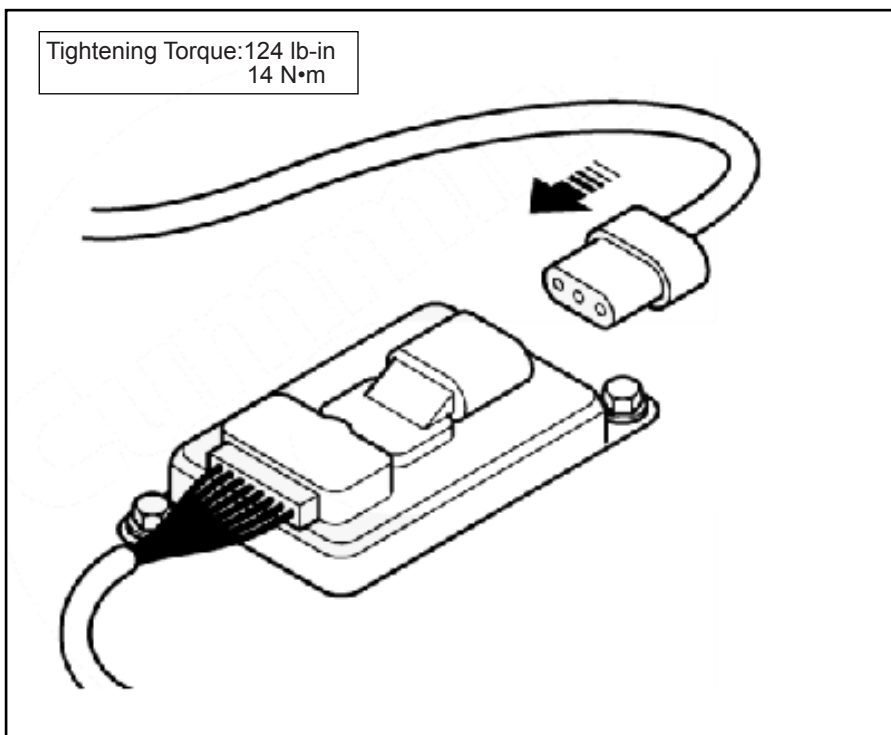

Figure 7 - Typical View of Plugging the Sensor
- 1.11. Install the retained capscrews of the harness connector (see Figure 7).